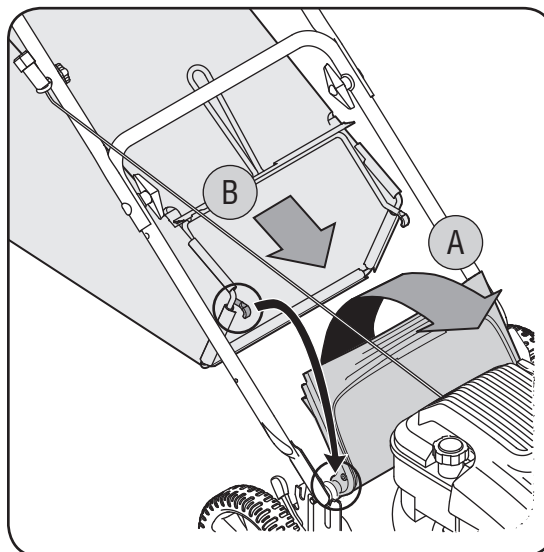

Figure 7
- Lift the rear discharge door on the mower, and place the grass catcher on the pivot rod. Let go of discharge door so that it rests on the grass catcher. See Figure 7.
- Lift rear discharge door on the mower as shown in Figure 7. Lift grass catcher up and out, off of the pivot rod. Release rear discharge door to allow it to close rear opening of mower.